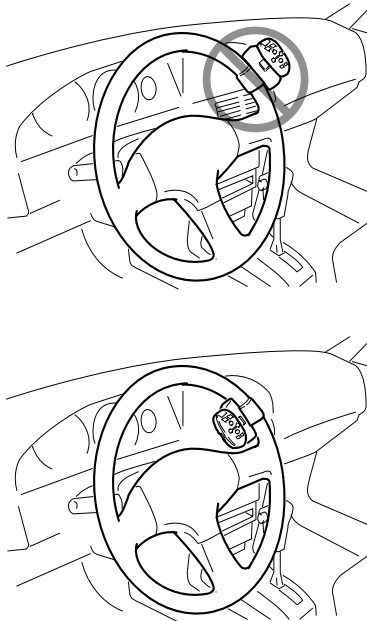

Fig. 7
- Do not attach this unit to the outer circumference of the steering wheel. Otherwise, it disturbs driving stability, causing a traffic accident. Always attach this unit to the inner circumference of the steering wheel as shown. (Fig. 7)